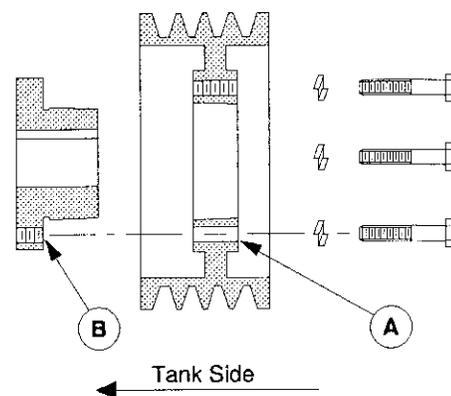

Figure 35: “Flange-In” Dismounting
4. Note the mounting orientation of the sheave bushing flanges to decide if the sheaves have standard mounting (“Flange In”) or reverse mounting (“Flange Out”). This observation is important to ensure that the same mounting orientation is repeated after the sheave(s) has been replaced, *Figure 35*.
Refer to *Figure 35*.